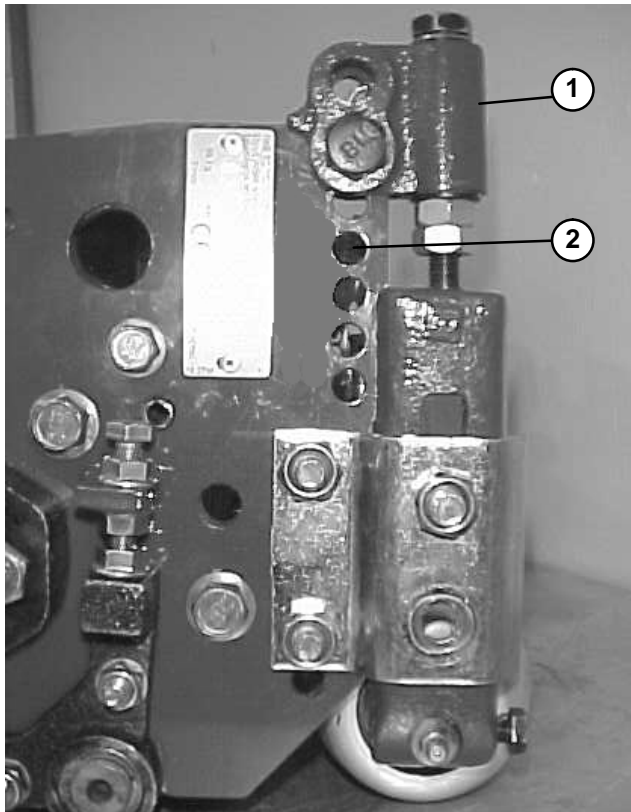

Figure 15
3. Set the rear support bracket and side plate using the approximate dimensions given by **Table 1**. The rear support bracket is either in the top or bottom location, and the side plate location can be in holes 1 thru 4, with 1 being the top hole (Fig. 15).